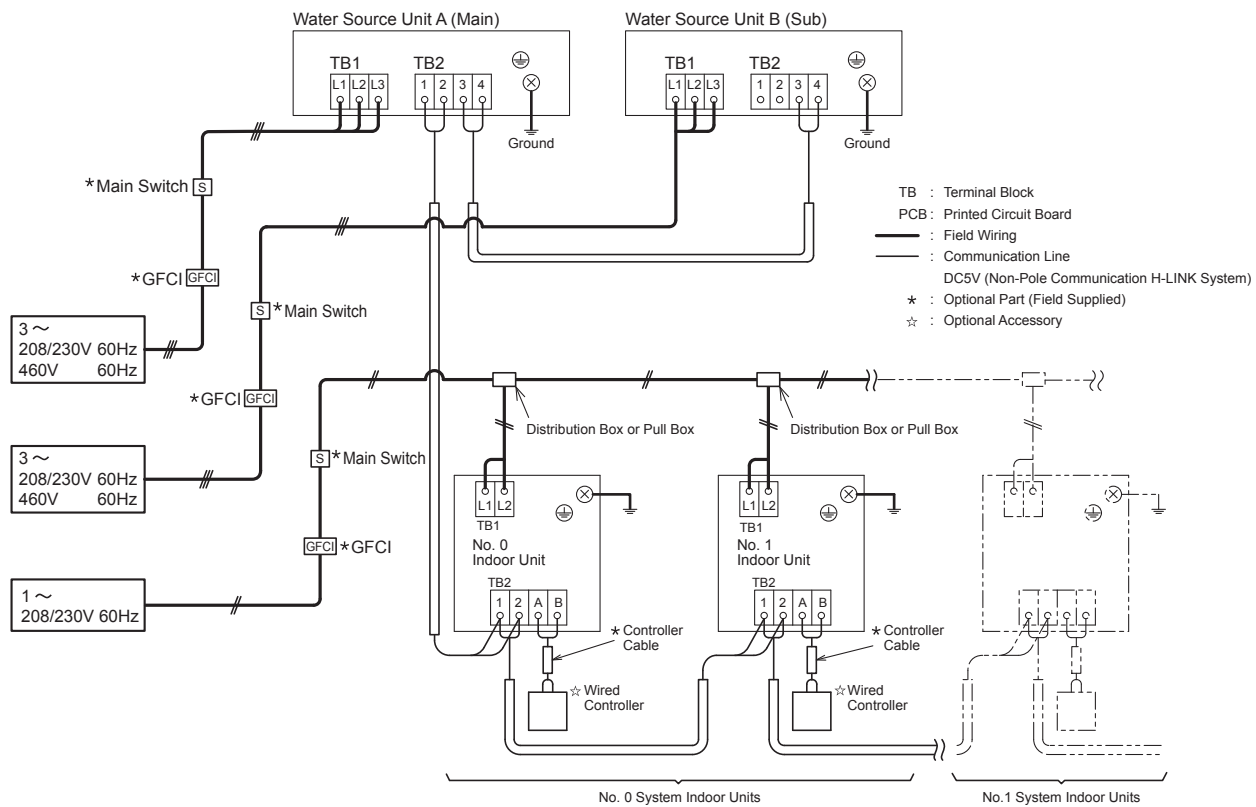

Figure 8.5 Layout for Electrical Wiring Connection (Heat Pump System)
- (3) Connect the communication cable between indoor units, change-over boxes and water source units, as shown in Figure 8.5 and 8.6.
- (4) Connect the communication cables in the same refrigerant system unit. (If the refrigerant piping of indoor unit is connected to the water source unit, also connect the communication cables to the same indoor unit.) Connecting the refrigerant piping and communication cables to the different refrigerant systems may lead to malfunction.
- (5) Use communication cabling that is a minimum of AWG18 (0.82mm²), 2-Conductor, Stranded Copper. Shielded cable must be considered for applications and routing in areas of high EMI and other sources of potentially excessive electrical noise to reduce the potential for communication errors. When shielded cabling is applied, secure properly and terminate cable shield as required per Johnson Controls-Hitachi Air Conditioning guidelines. Plenum and riser ratings for communication cables must be considered per application and local code requirements. (Do not use Tri-Core or anything beyond.)
- (6) Use the same kind of cables in the same H-LINK system.
- (7) Maintain at least 5 inches (127mm) between the communication cables and the power supply wiring, and also min. 5 ft (1.5m) between the communication cables and power supply wiring for other electrical device. If these cables are not secured, sleeve the power supply wiring into the metallic conduit tubing to separate them from the other cables. Make sure power supply wiring are well-grounded.